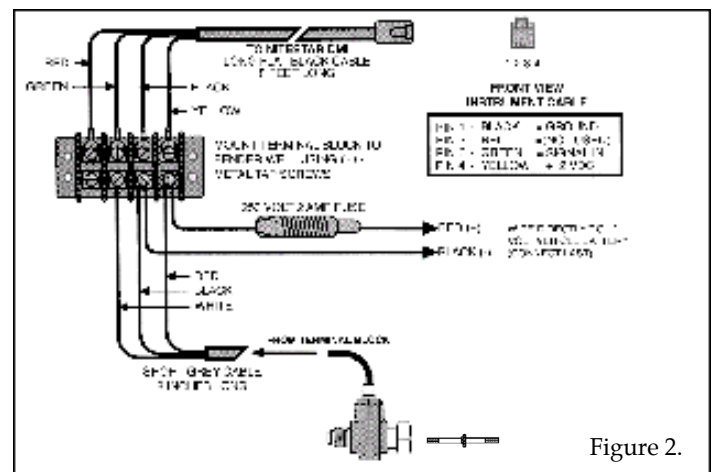

Figure 2.
**STEP 3:** Connect the New PN-1080 or PN-1081 Transmission sensor to the terminal block as follows: The sensor has one cable exiting the mechanical housing. Connect the cable (3 wires - Red, Black and White) to the terminal block as shown in Figure 2.
**Step 1:** Recheck all the wiring (fig 2).
1) Turn the meter on and press the "9Prm" key, the "1Cal" key and mark/enter. The meter will then appear to go into a power up self-test mode. Once that is complete press the Run/Hold key. The meter should count at this point without the vehicle moving at all. If the meter fails to count, contact the Customer Service Department at (724) 438-8750.